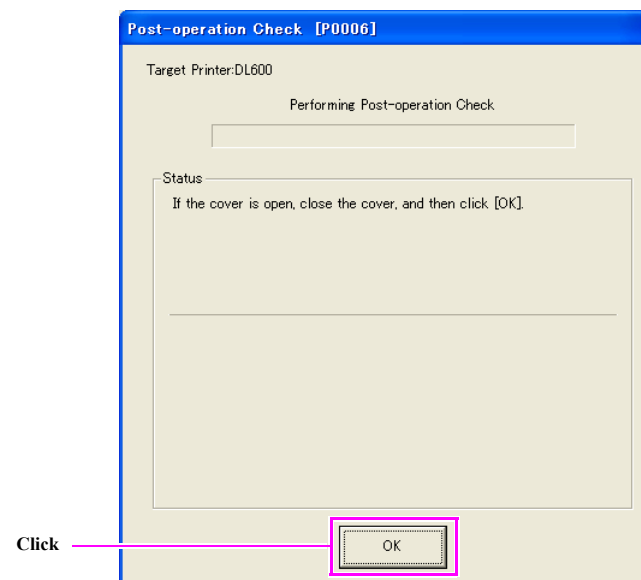

Figure 3-71. Shutting down Screen (2)
6. Click [OK]. (See Figure 3-71)